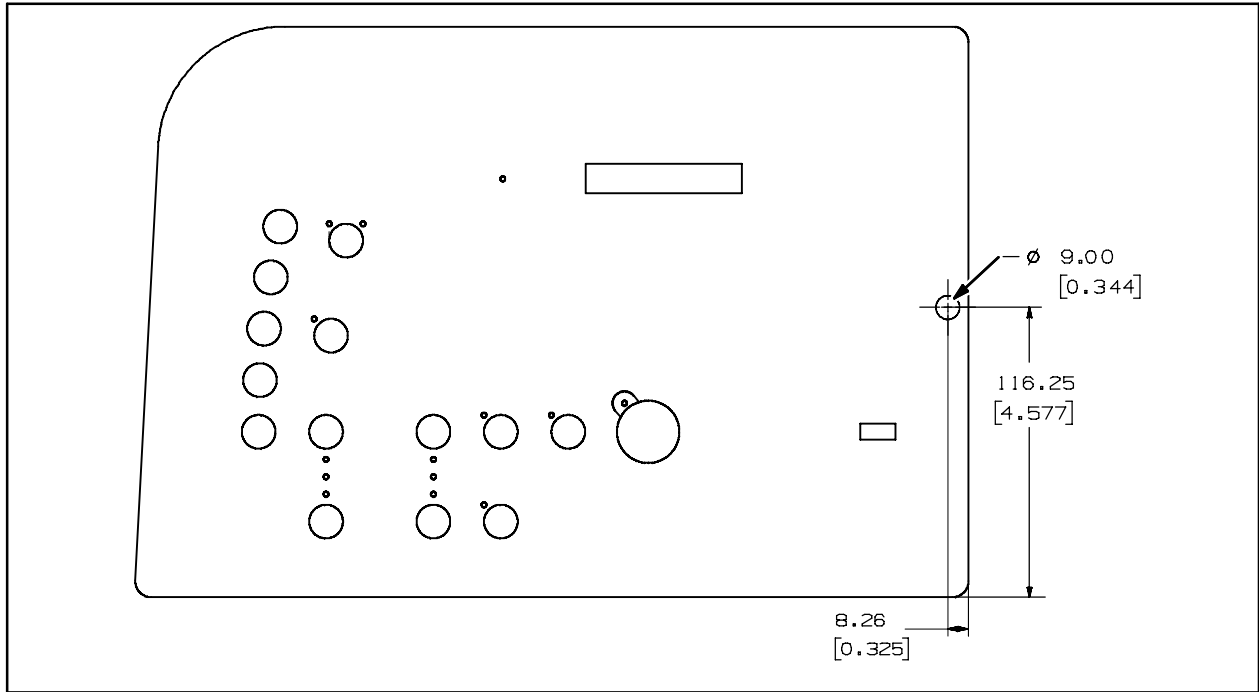

FIG. 5
20. Drill a 11/32" (0.344") hole through the instrument panel assembly. Refer to Fig. 5.
24. Insert the *ec-H20* warning light into the 11/32" (0.344") hole. Refer to Fig. 5.